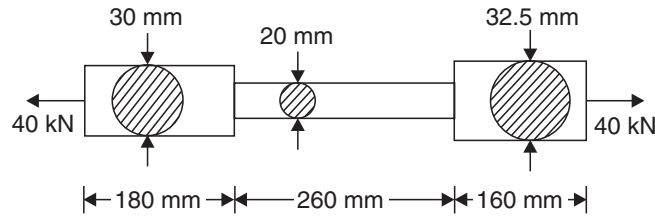

Fig. 12.26
3. Find the total extension of the bar, shown in Fig. 12.26 for an axial pull of 40 kN. [Ans. 0.225 mm]